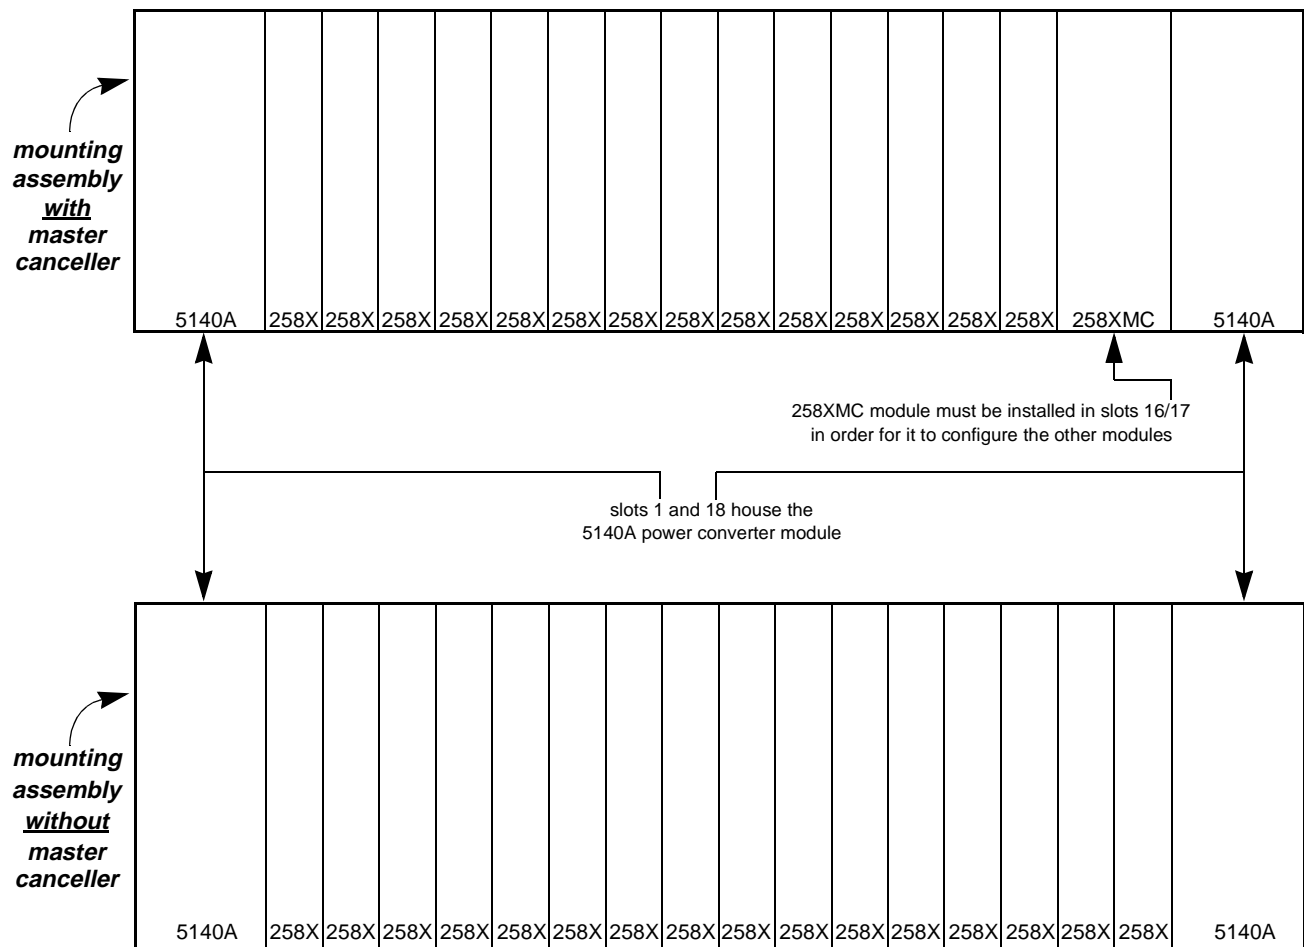

Figure 3-1 258X module placement in rear-access mounting assembly
3.4 See Figure 3-1 for a module placement diagram.